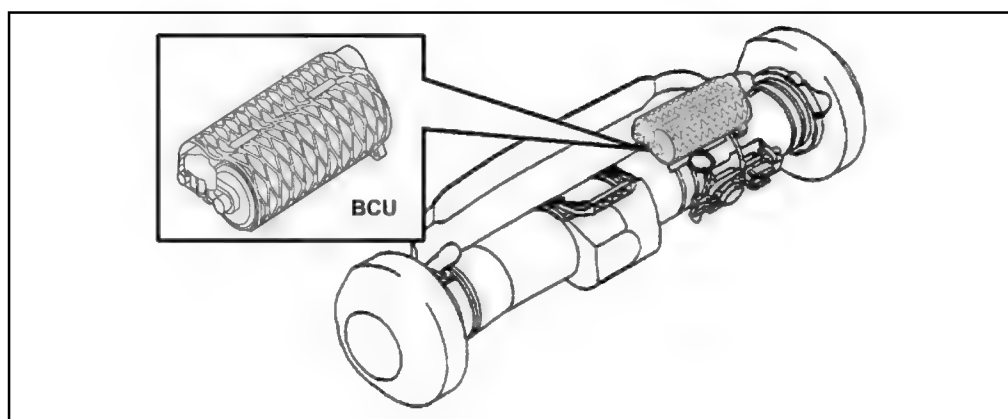

Figure 1-19. Battery coolant unit.
g. **Battery Coolant Unit.** The BCU (Figure 1-19) has the battery section and a compressed-gas coolant section. The battery section powers the missile electronics before missile launch. The coolant section cools the missile seeker to its operating temperature before missile launch. The BCU is a single-use unit with 4 minutes of operating time and is not rechargeable. Once the missile has been fired, the spent BCU is discarded with the LTA.